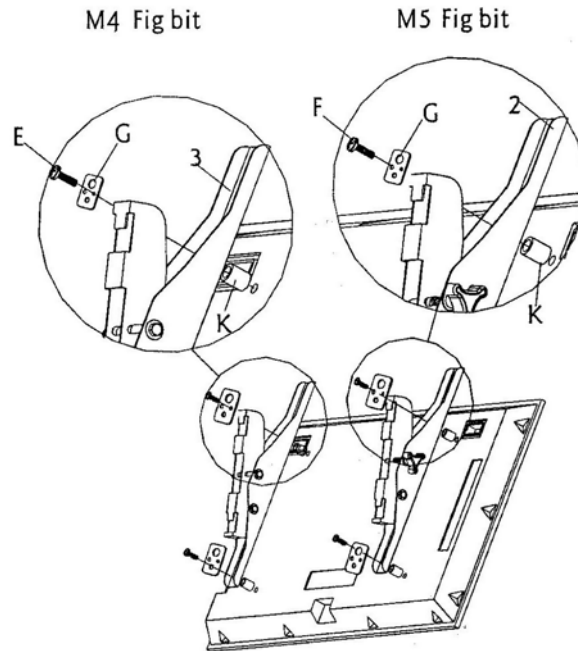

Fig 1b
- Some displays have curved backs with recessed mounting lands (Fig. a). This will require the use of spacer. For this display, install a spacer (K) between display and the bracket. As shown in Fig 1b.